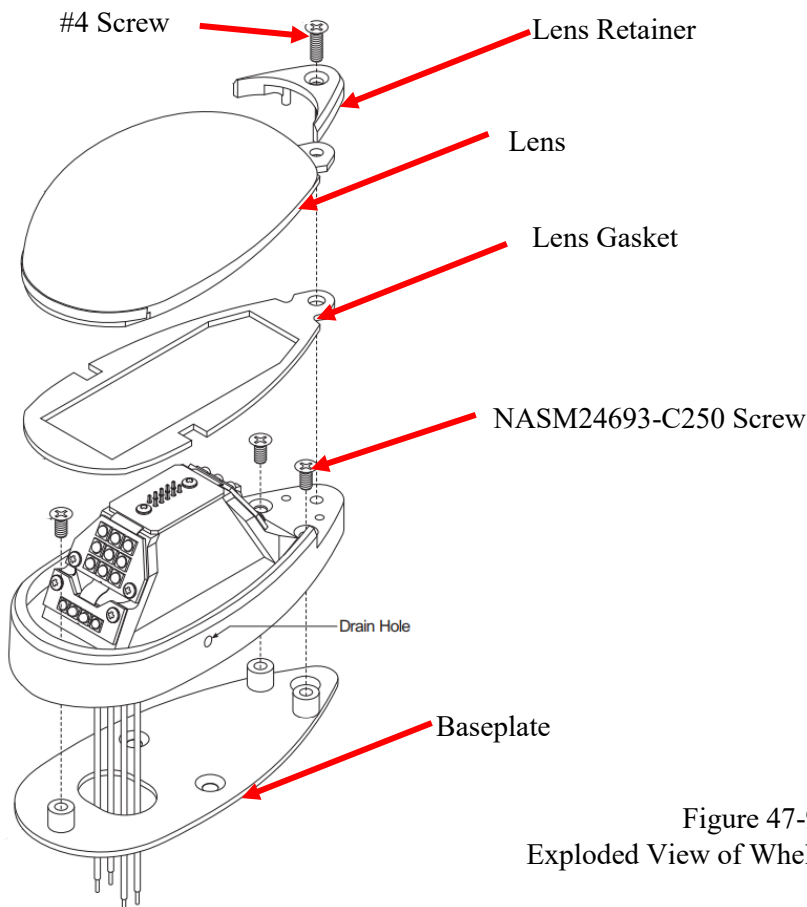

Figure 47-9
7. Install new Whelen LED light 339710003-001 (L/H) and 339710003-002 (R/H) in same location as the old light. Use the following instructions and Figure 47-9: